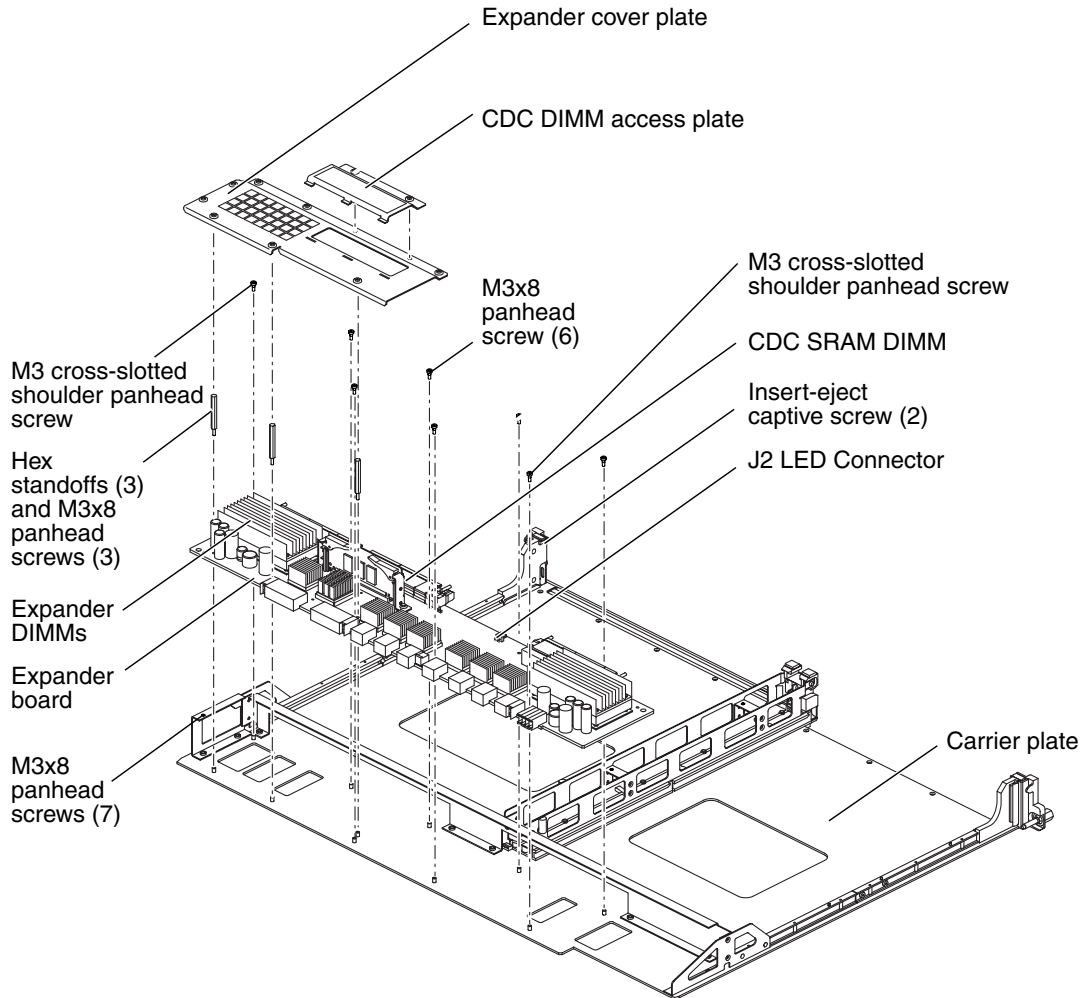

FIGURE 12-2 Expander Board and Carrier Plate—Exploded
3. **Using two (2) 0.5 in. (13 mm) nut drivers, simultaneously release the carrier plate captive ejector screws until they are fully disengaged.**
4. **Using a Phillips No. 2 screwdriver, loosen the two (2) M3x8 panhead screws on the access cover of the coherence directory cache (CDC) DIMM and remove the cover and set aside.**
5. **Using a Phillips No. 2 screwdriver, loosen the remaining eight (8) M3x8 screws and remove the expander cover plate and set aside.**
7. Use a 0.25 in. (6mm) nut driver to remove the three (3) threaded hex standoffs.
8. Remove the two (2) M3 cross-slotted shoulder screws from the expander.
9. Remove the six (6) M3x8 panhead screws from the expander.
10. Firmly grasp the expander board lifting upward and pulling out away from the carrier plate standoffs (FIGURE 12-2).
1. Firmly grasp the expander board with the components upward and the LED connector toward the LED board of the carrier plate. Position the expander board onto the carrier plate aligning the eleven (11) mounting holes with the eleven (11) mounting standoffs on the carrier plate.
2. Review FIGURE 12-2 for the threaded hex standoff mounting locations and install the three (3) threaded hex standoffs onto the board.
4. Use a Phillips No. 2 screwdriver to secure the expander board to the carrier plate with the two (2) M3 cross-slotted shoulder screws.
5. Use a Phillips No. 2 screwdriver to secure the expander board to the carrier plate with the remaining eight (8) M3 cross-slotted shoulder screws.
7. Secure the expander cover plate to the expander board with the eight (8) M3 captive screws. See FIGURE 12-2.
8. Install the CDC DIMM access plate onto the expander cover plate aligning the three tabs into the insertion slots on the expander cover plate and secure with the two (2) M3 captive screws. See FIGURE 12-2.